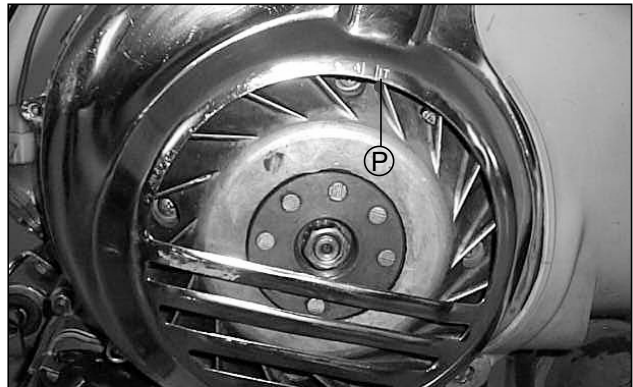

Fig.13 - Coinciding the marks P & IT
- (e) Accelerate the RPM to approx. 3500 to 4000 and ensure that the pin 'P' mark on the rotor fan coincides with the 'IT' mark on the flywheel cover (fig. 13).